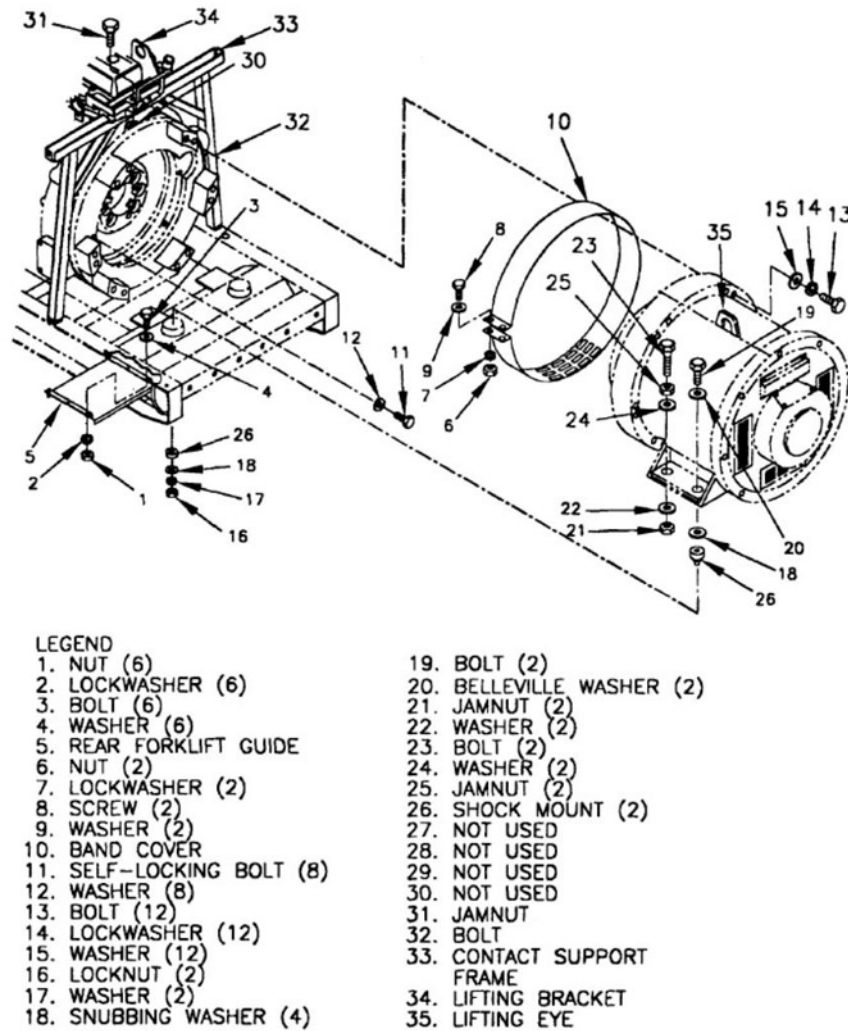

Figure 3-23. Alternator assembly removal.
- Loosen the nut (fig. 3-23), adjust the bolt to contact the support frame, and tighten the nut.
- Remove the nuts (fig. 3-23), lockwashers, bolts, washers, and rear forklift guide from the skid base.